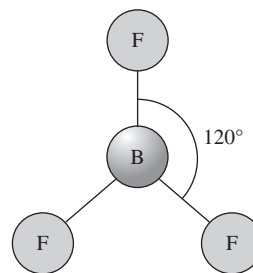

Figure P3.33 Planar configuration of boron trifluoride.
- 3-33.** The gas boron trifluoride (BF_3) has a trigonal planar configuration as shown in Fig. P3.33. The B-F bond length is 1.3 Angstrom. Adjacent fluoride molecules form a 120° angle. Find the distance between adjacent fluoride molecules.